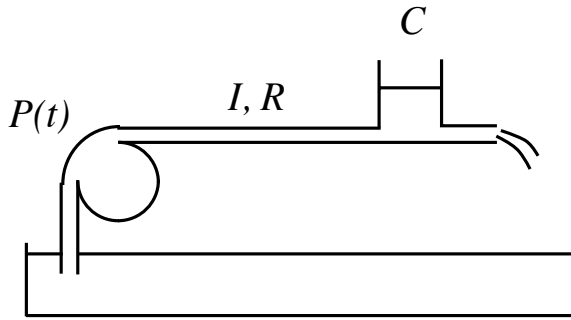

Figure 1: A fluid system
1. This is an exam problem that I gave in the Winter Quarter of 2001. Consider the fluid system shown in Fig. 1. The state variables are the pressure  $p_C$  of the tank and the flow rate  $Q_I$  in the long pipe. In addition, the input is the pump pressure  $P(t)$ . Moreover, the state equation of the system is given by